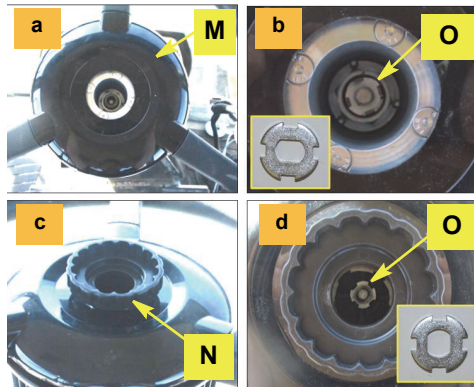

Figure 6a (a-d): Column telescoping actuator installation
- The steering wheel center cover **M** over the steering wheel hub (Figure 6a-a)